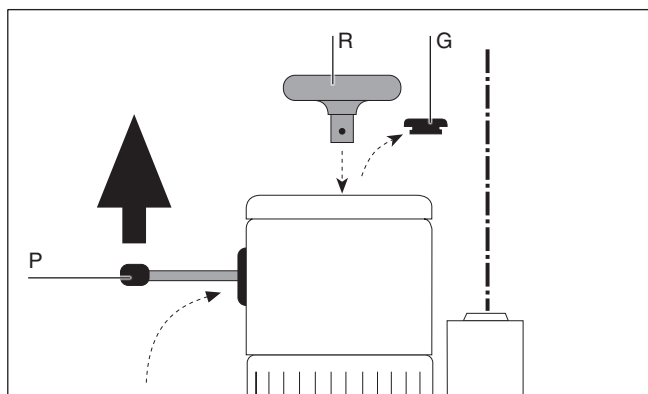

Fig. E.2 - TIRAK™
- b) Take out the brake lever (P) housed in the hoist handle and place it, through the slot of the cover, on the brake stirrup (Fig. E.2)